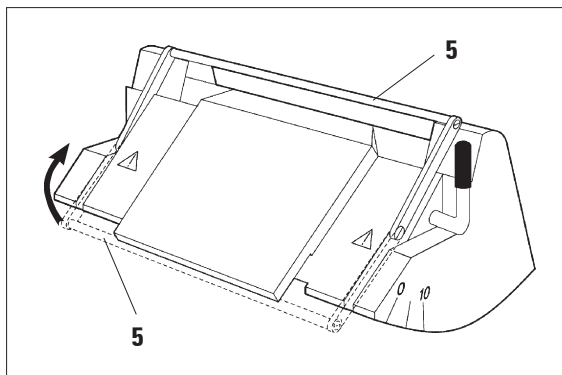

Fig. 4
To cover the edge, turn the shackle (5) upwards as shown in Fig. 4.